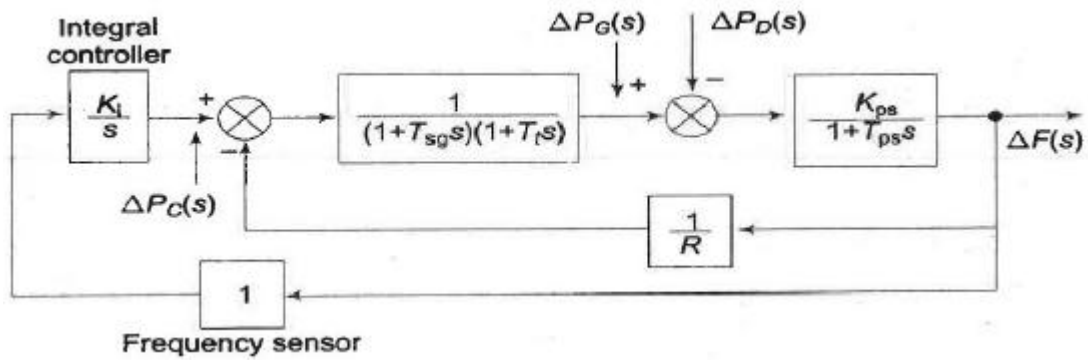

Fig: 9.1. Proportional plus integral load frequency control
**Proportional plus integral control:** It is seen that with the speed governing system installed on each machine, the steady load frequency characteristics for a given speed changer setting has considerable droop. System frequency specifications are rather stringent and, therefore, so much change in frequency cannot be tolerated. In fact, it is expected that the steady change in frequency will be zero. While steady state frequency can be brought back to the scheduled value by adjusting speed changer setting, the system could undergo intolerable dynamic frequency changes with changes in load. It leads to the natural suggestion that the speed changer setting be adjusted automatically by monitoring the frequency changes. For this purpose, a signal from  $\Delta f$  is fed through an integrator to the speed changer resulting in block diagram configuration shown in the Figure 9.1. The system now modifies to a proportional plus integral controller, which, as is well known from control theory, gives zero steady state error, i.e.  $\Delta f|_{\text{steady state}} = 0$ .